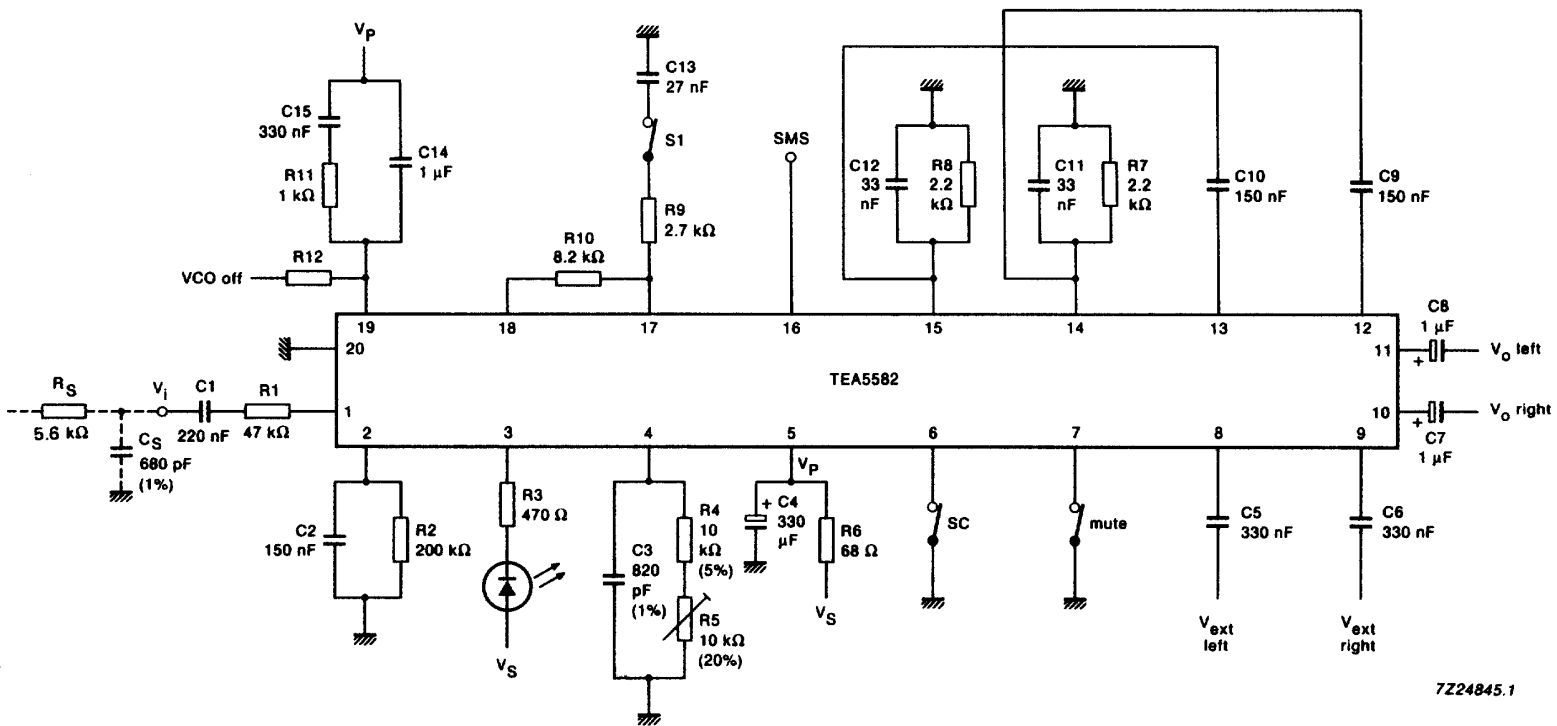

Fig.5 Test and application circuit.
Measured in the test circuit of Fig.5; $V_S = 8.5\text{ V}$; $T_{\text{amb}} = 25\text{ }^\circ\text{C}$.
AC conditions: (1) input signal (V_i) of 815 mV p-p for L = 1, R = 1 (mono) $f_m = 1\text{ kHz}$ (= 80% modulation). (2) MUX input signal (V_i) of 1.2 V p-p for L = 1, R = 0 and no DBX; $f_m = 1\text{ kHz}$ (stereo) and $V_{\text{pilot}} = 200\text{ mV p-p}$. (3) S1 open, unless specified (without L-R filter); voltage controlled oscillator (VCO) adjusted to 188.8 kHz at $V_i = 0\text{ V}$; values are measured with an external IF roll-off network (-2 dB at 31.5 kHz = $2f_H$) at the input (dashed components RS and CS in Fig.5). All the above conditions apply unless otherwise specified.